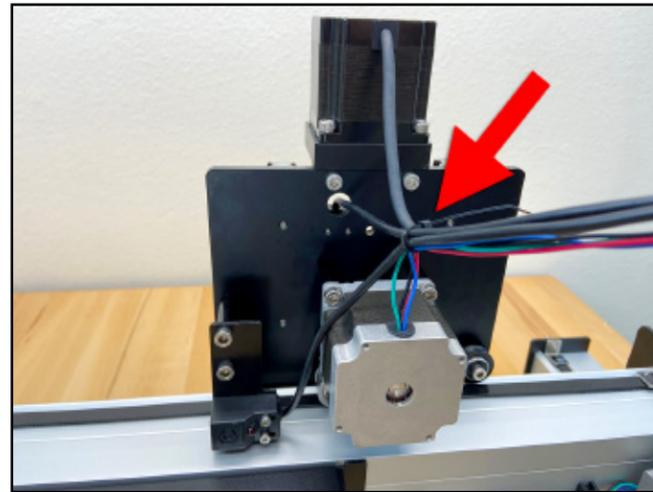

Figure 7-12
2. Gather the four X/Z-cables: the black Z-motor lead, the X-motor lead, the Z-Axis proximity switch cable and the X-Axis proximity switch cable and secure them together with a cable tie just above the X-motor. See **Figure 7-12**.